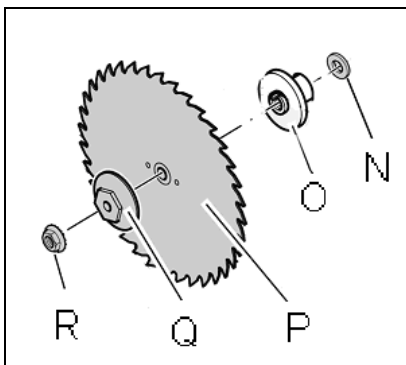

Fig 14
Remove the arbor nut (R, Fig 14 and flange (Q).